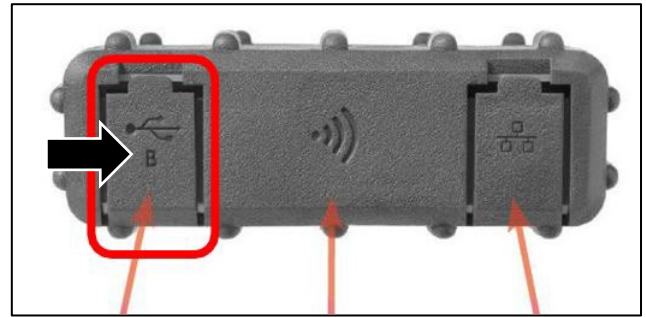

Figure 7
8. Connect the USB cable into the connector marked B on the Bosch MTS 6531 VCI and the USB port on the PC (refer to Figure 7).